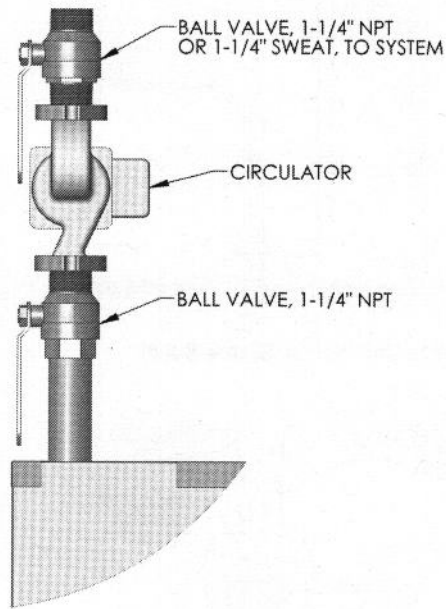

Figure 3.8: Circulator with Isolation Valves
2. The supply and return connections should be sized to suit the system. A 1-1/2" to 1-1/4" reducing coupling may be used where the system piping is 1-1/2". Use the two 1-1/4 isolation valves on connection to the circulator. Refer to Figure 3.8 Circulator with Isolation Valves.